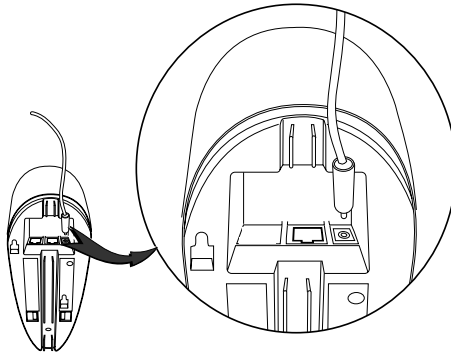

Figure 1-2. Power Supply Port
6. Connect the power supply to the cradle (see Figure 1-2).